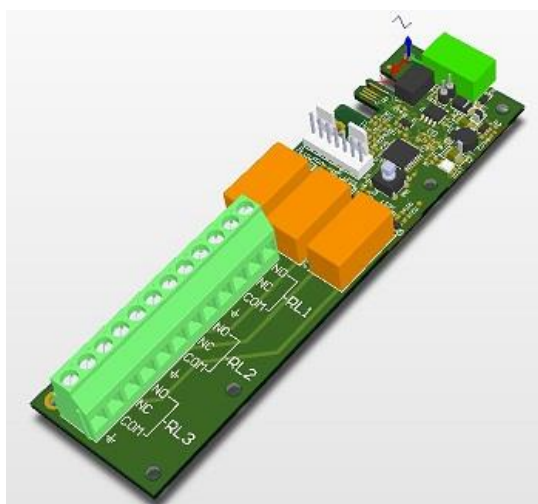
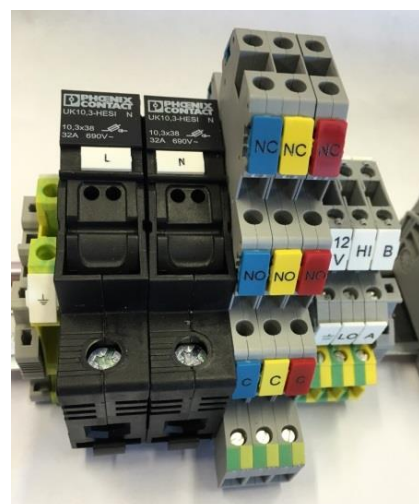

Figure 5-36: Relay board (schematic)
Figure 5-37: Relay connections (right) and Mains (left)
Three alarm relays are provided on a small PCB as shown schematically in Figure 5-36 and are wired to connector blocks on the DIN rail as shown in Figure 5-37.
6. Remove the relay control cables from the relay board (see Figure 5-37).